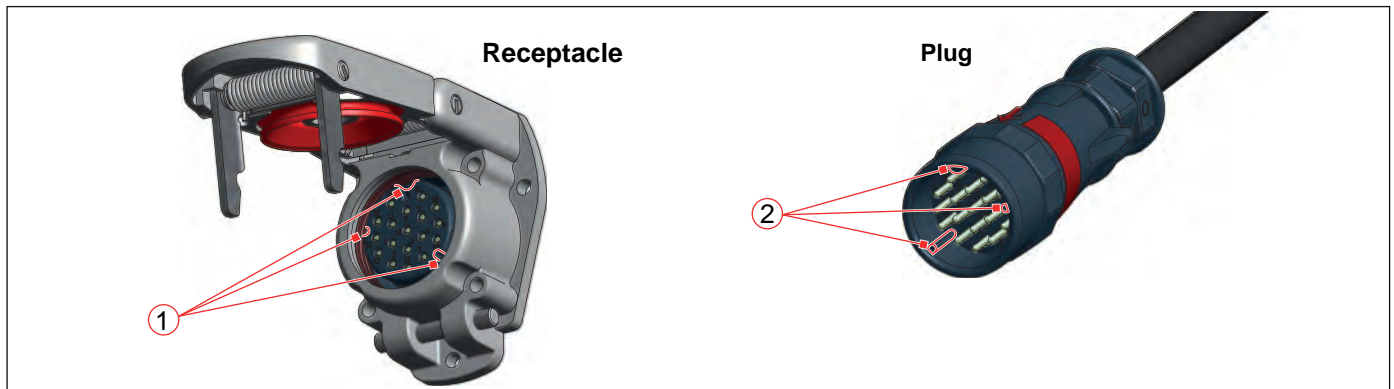

Fig. 19: Slots (1) on receptacle and guideways (2) on plug
- ▶ Make sure that the slots (1) and guideways (2) of receptacle and plug always interlock when plugging (**Fig. 19**)!
Then insert the plug in such a way that the guide-ways (2) in the plug slide without much effort into the slots (1) of the receptacle (refer to **Fig. 19**).